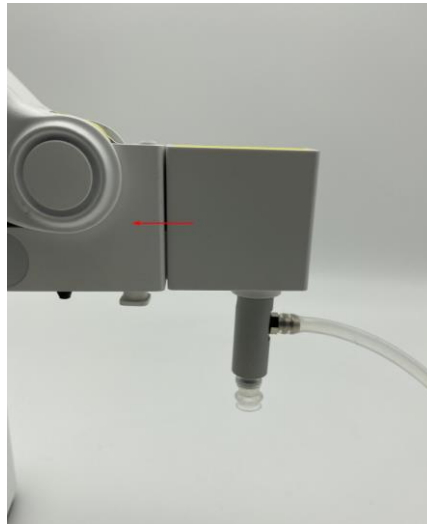

Figure 5.9 Install a suction cup kit
- Step 1** Insert a suction cup kit into the end's port, hear a sound indicating that the suction cup is fixed and complete, as shown in Figure 5.9.